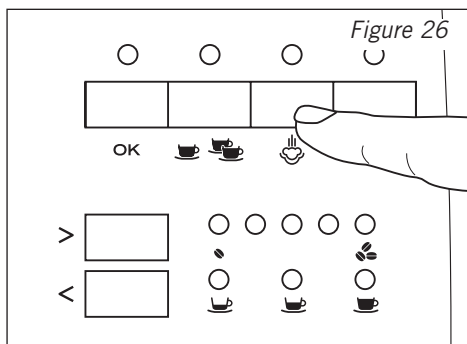

Figure 26
- When wanting to froth milk, press the ☼ steam pre-selection button on the control panel, see figure 26. The ☼ steam pre-selection indicator illuminates and in addition the ⚡ indicator will start to flash, indicating that the espresso machine is heating.
- Exit the steam mode by pressing the  steam pre-selection button, the indicator light will turn off and the appliance is now ready again for making coffee. See figure 26.